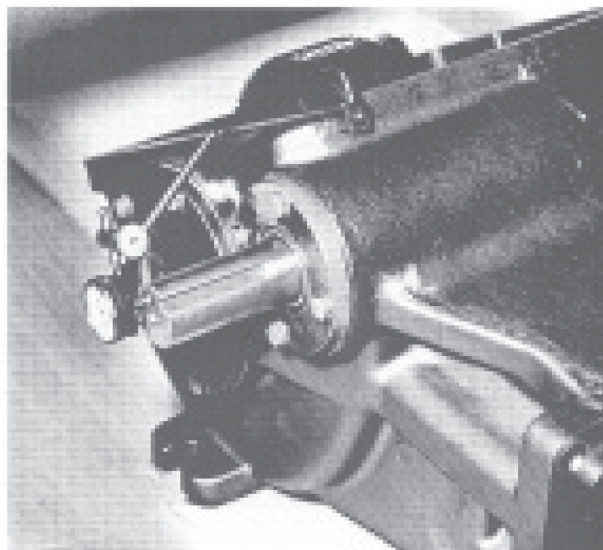

Fig. 12
- B. Put on other cap using total shim thickness known to be more than needed so that resulting end play is greater than required. Tighten cap screws holding pinion or crankshaft caps to gear case. Rotate pinion shaft back and forth and apply about 15 lbs. axial force to properly seat tapered rollers. Measure end play by using an indicating gage in a manner shown in Fig. 12.